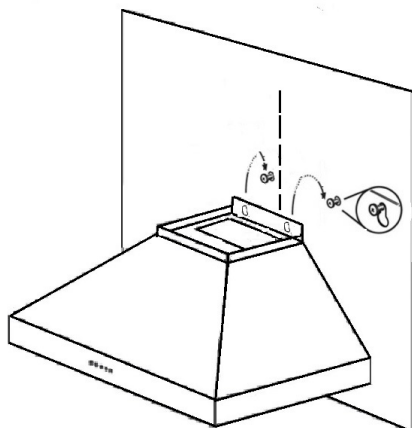

Figure 3.
4. Attach the hood body to the mounting screws on the wall. **NOTES:** Make sure the mounting screws are properly leveled before tightening the screws. *Figure 3.*